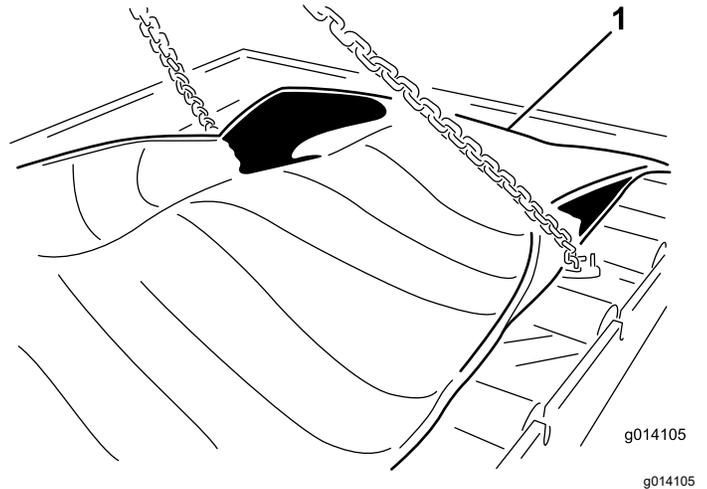

**Figure 53**
18. Remove the two option attachment brackets (Figure 53).